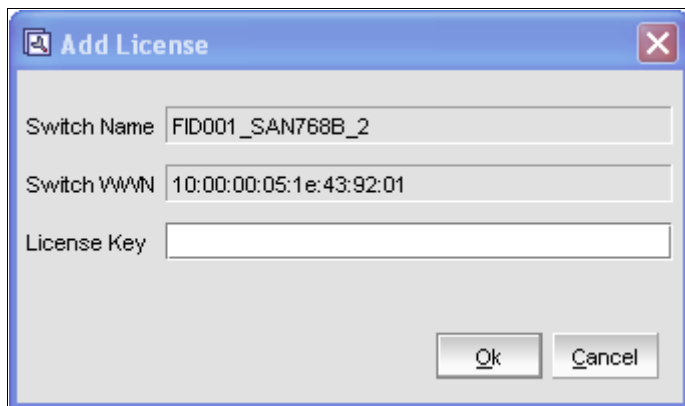

Figure 8-27 Add a license
- Click **Add**, and then enter the license key for the feature you want to enable, as shown in Figure 8-27.